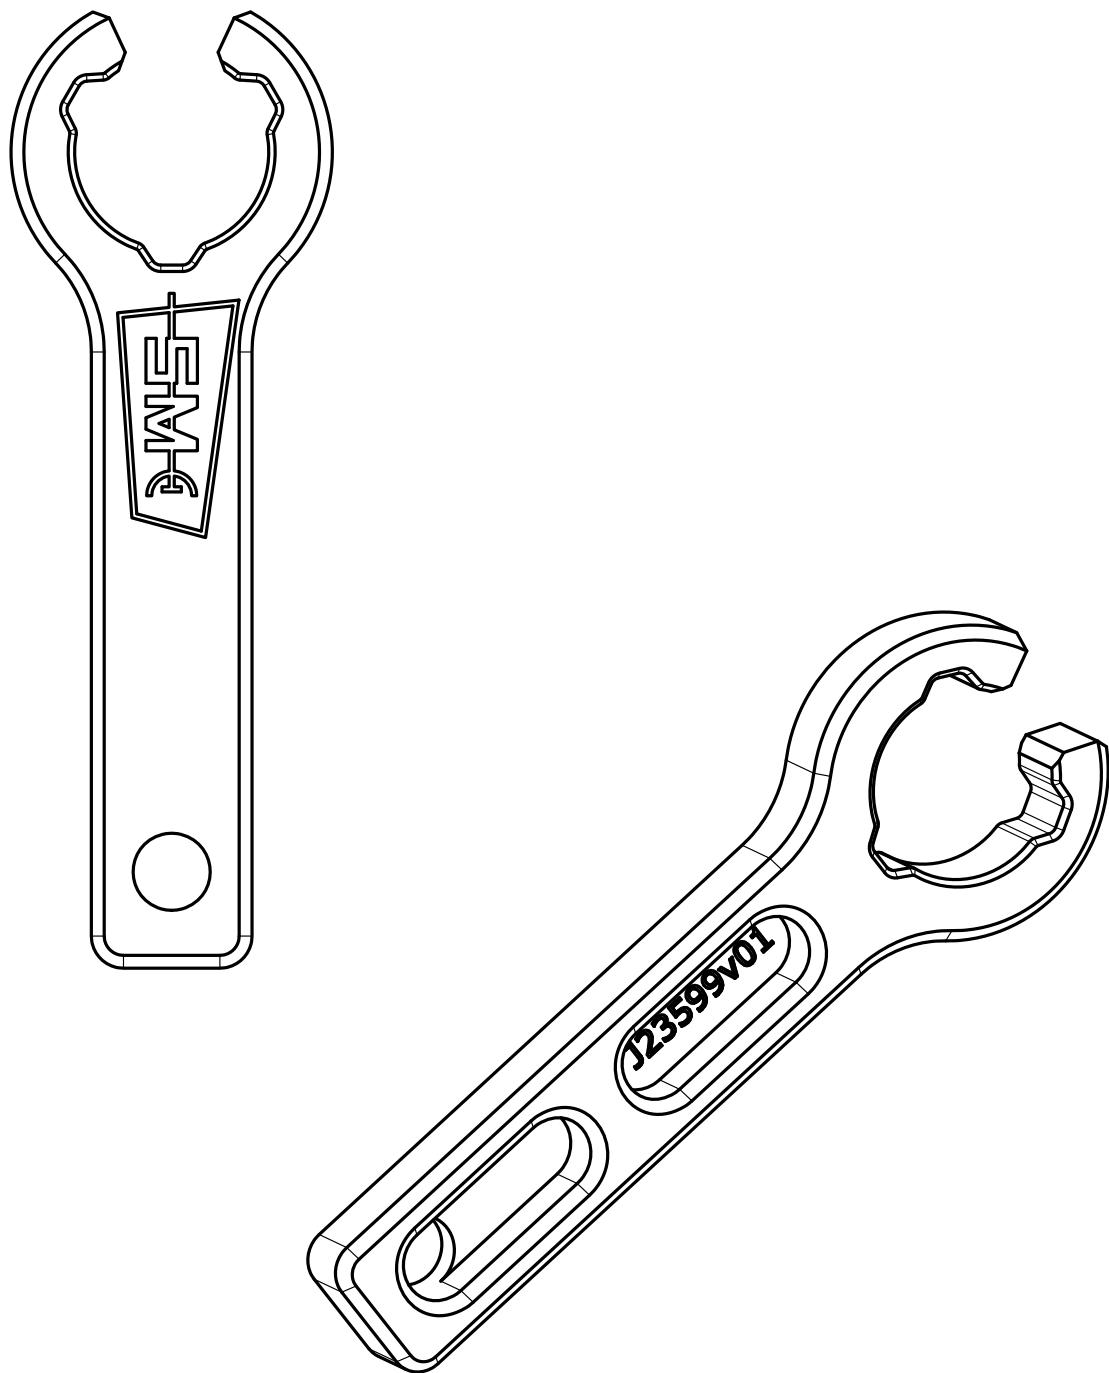

Fig.63 - Locking key for Amph. connectors - J23599
**Warning:** Tighten all unused connectors with the appropriate cover using the proper wrench J23599 (see Fig.63).